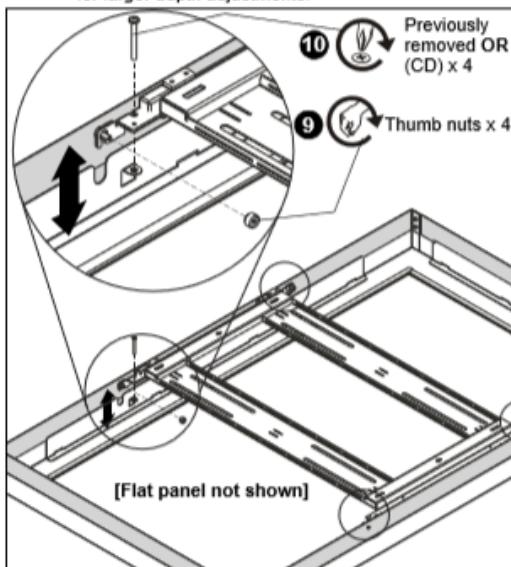

Figure 8
9. Tighten thumb nuts over threaded studs in four locations on the hinged frame. (See Figure 8)
10. Replace and fasten four Phillips screws which were removed in Step 1, OR replace the removed screws with four 10-24 x 2-3/4" Phillips head screws (CD) to allow for a larger depth adjustment of the outer frame. (See Figure 8)
NOTE: The outer frame depth may be adjusted between 3" - 5" to make room for a variety of different flat panel thicknesses. (See Figure 8)